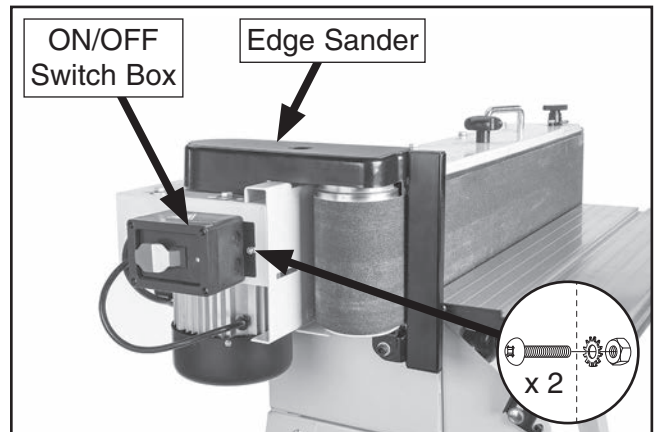

Figure 19. ON/OFF switch box attached to edge sander.
10. Attach ON/OFF switch box to edge sander with (2) M5-.8 x 15 Phillips head screws, (2) 5mm external tooth washers, and (2) M5-.8 hex nuts (see **Figure 19**).